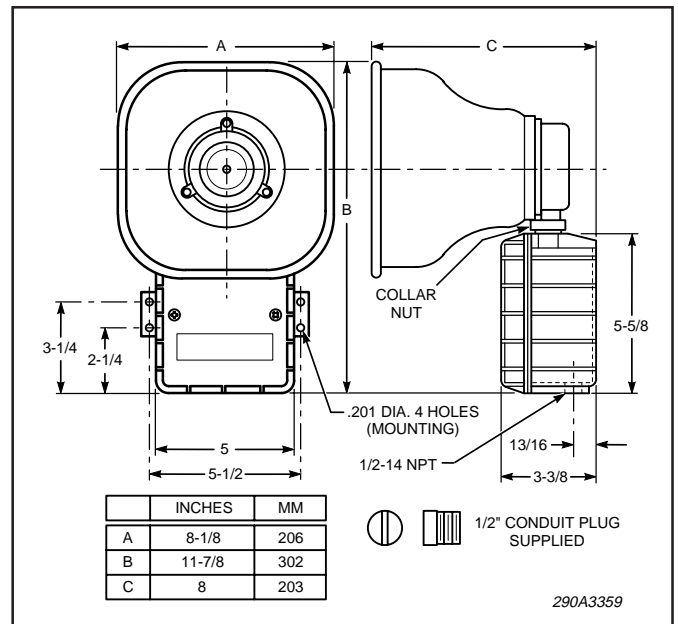

Figure 1. Model ASHH Dimensions.
B. Mounting Arrangements (see figure 1).
mounting bracket) as a template, scribe drill position marks on the mounting surface. See figure 1 for mounting hole locations and dimensions.
f. Reposition speaker projector if necessary to obtain desired sound coverage. Loosen collar nut (see figure 1) and move projector to desired position.